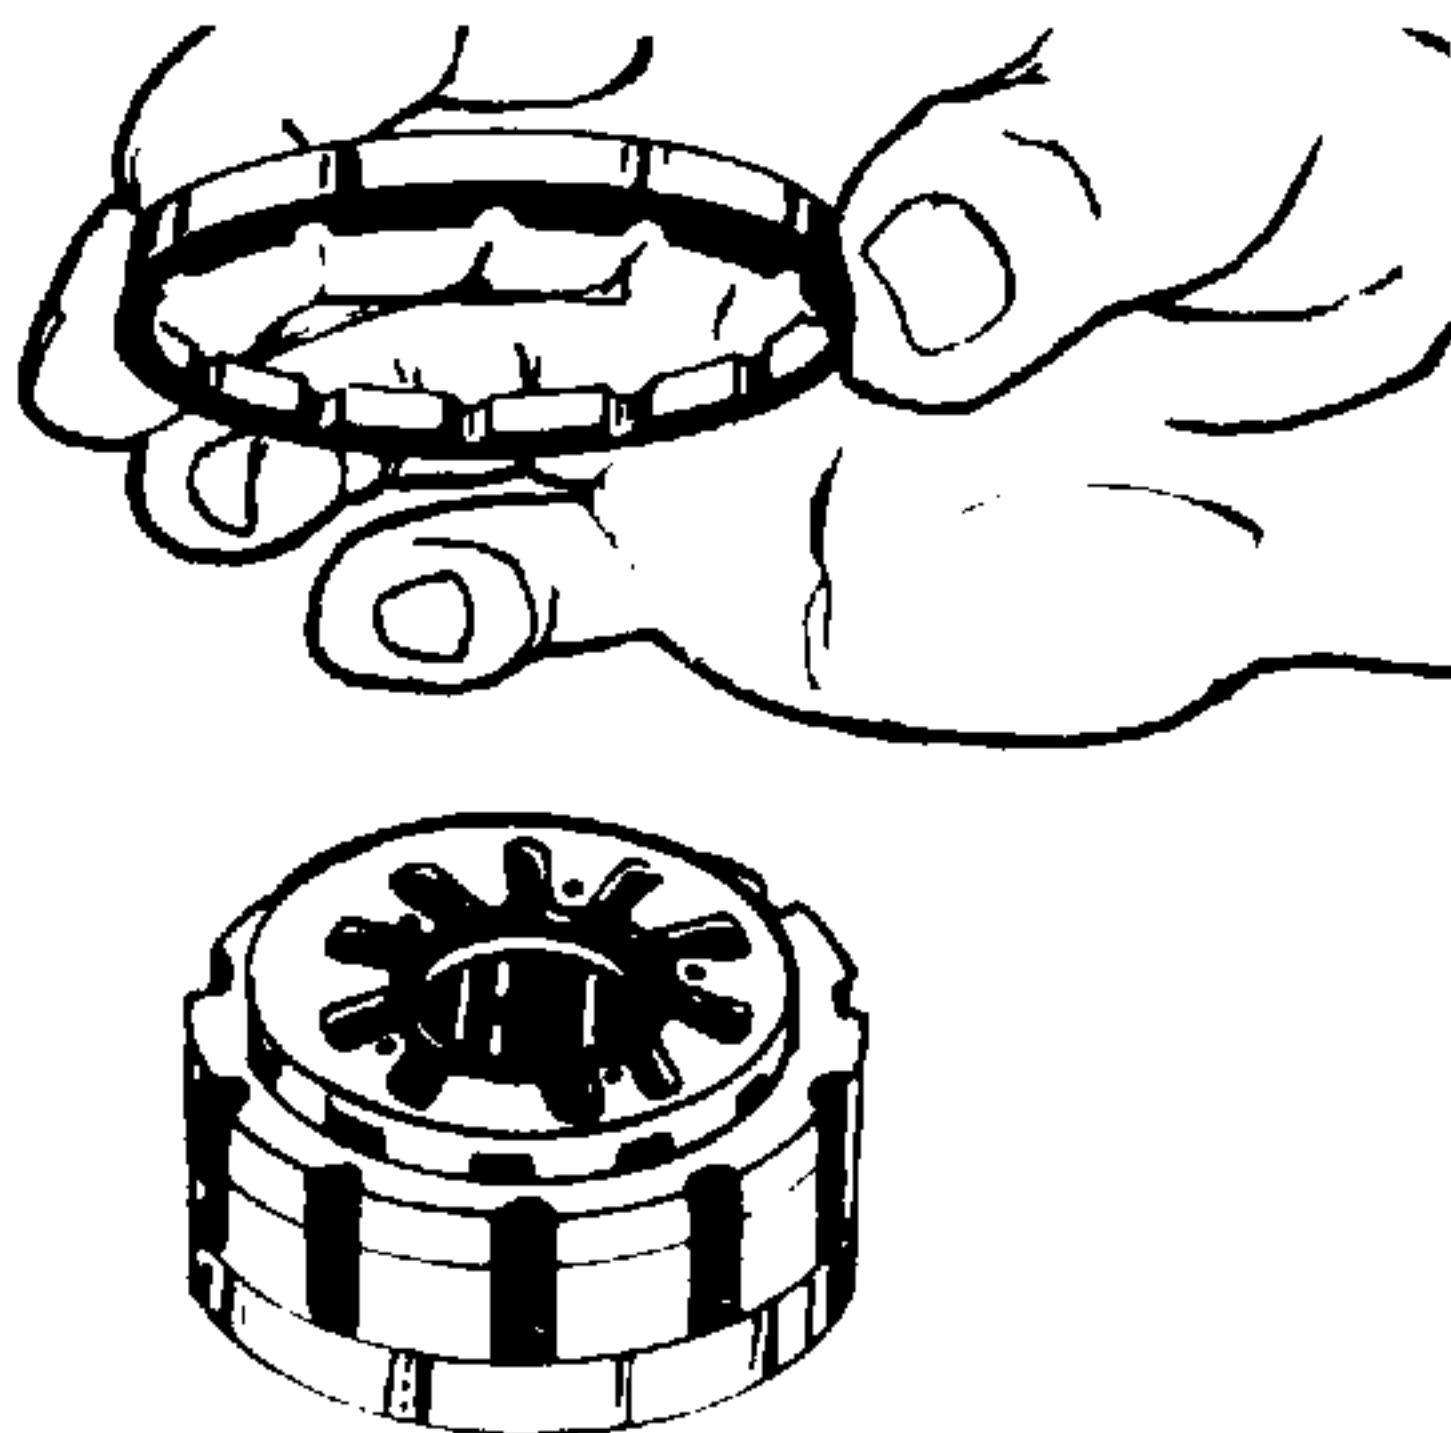

Figure 4-26. Removing Commutator Ring.
29. Remove commutator ring (20, Figure 4-1). See Figure 4-26. Inspect for cracks, burrs and scoring.